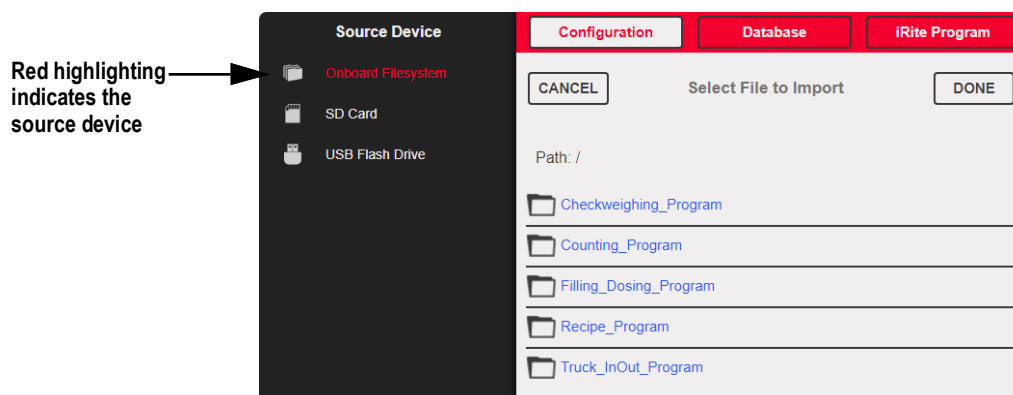

Figure 14-1. Import Configuration
**NOTE:** The Import Configuration screen looks the same whether importing from an onboard file system, a micro SD card or a flash drive. The only difference is the source device is highlighted in red on the left side of the screen. For an example, see Figure 14-1, a file is being imported from an onboard file system.
2. Press **Import from File**. The Import Screen displays, see Figure 14-1 on page 127. Load both the .rev and .cod files to use the built-in application programs.
4. Select **Import from File**. The Import Screen displays, see Figure 14-1 on page 127.
2. Press **Import from File**. The Import Screen displays, see Figure 14-1 on page 127.
3. Press **Import from File**. The Import Screen displays, see Figure 14-1 on page 127.